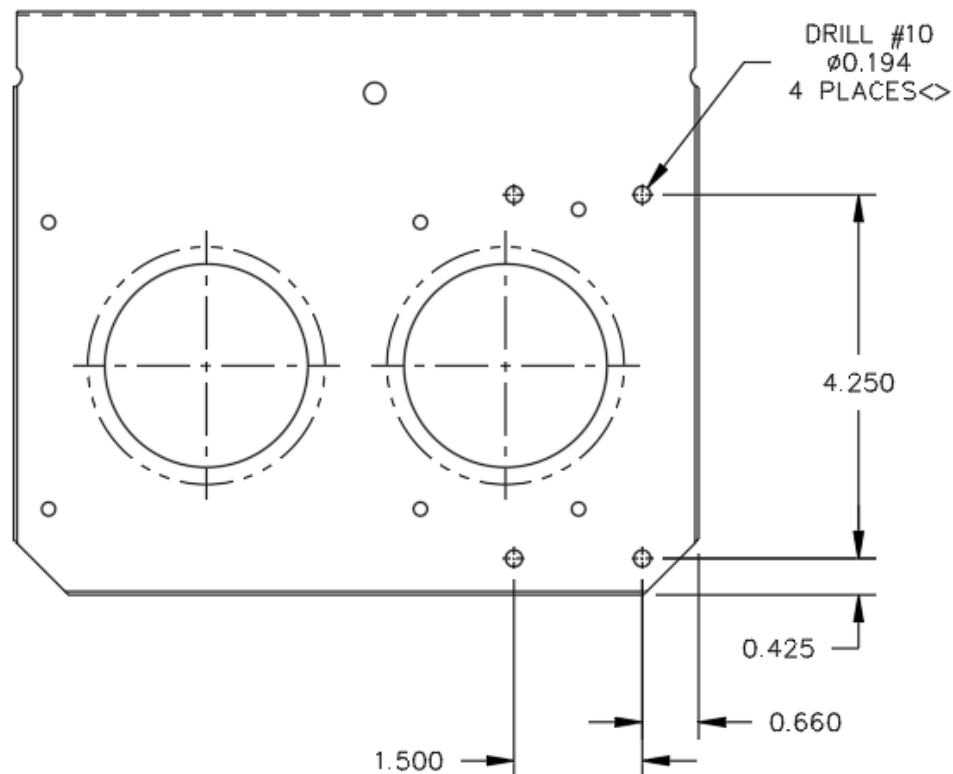

Figure 7 – Caution Unit Tray Assembly
24. Mark off 4 mounting holes in the Caution Unit Tray Assembly as shown in Figure 7. Ensure the mounting holes will allow the fasteners to be clear of the underlying structure then the Caution Unit Tray Assembly is refitted and adjust the position if required.